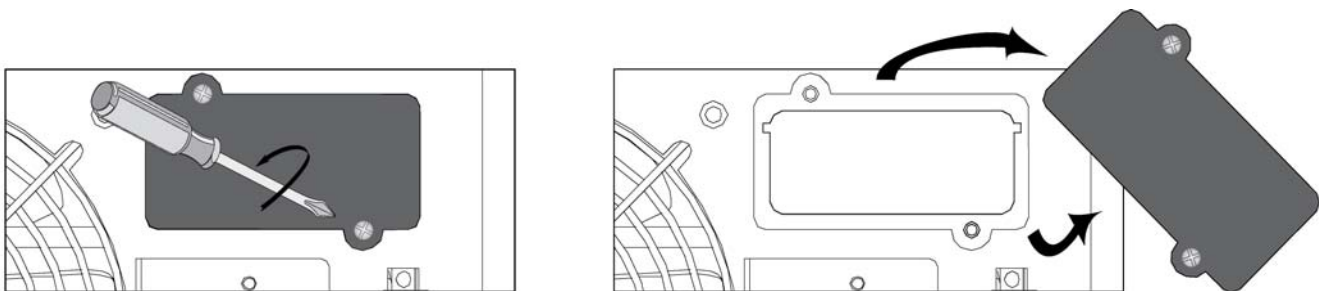

Fig. 3
- Fig 3: Loosen cover of option slot, remove cover (save the screws for later use). For the location of the option slot please consult the user manual of the UPS.